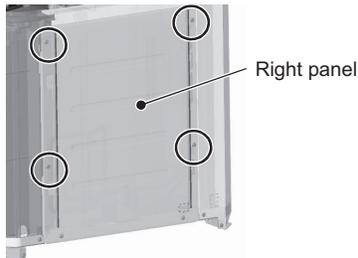
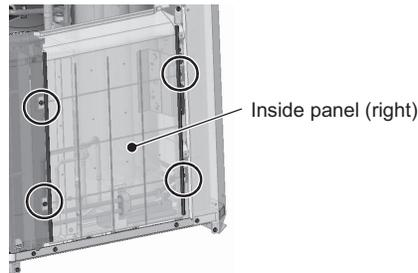
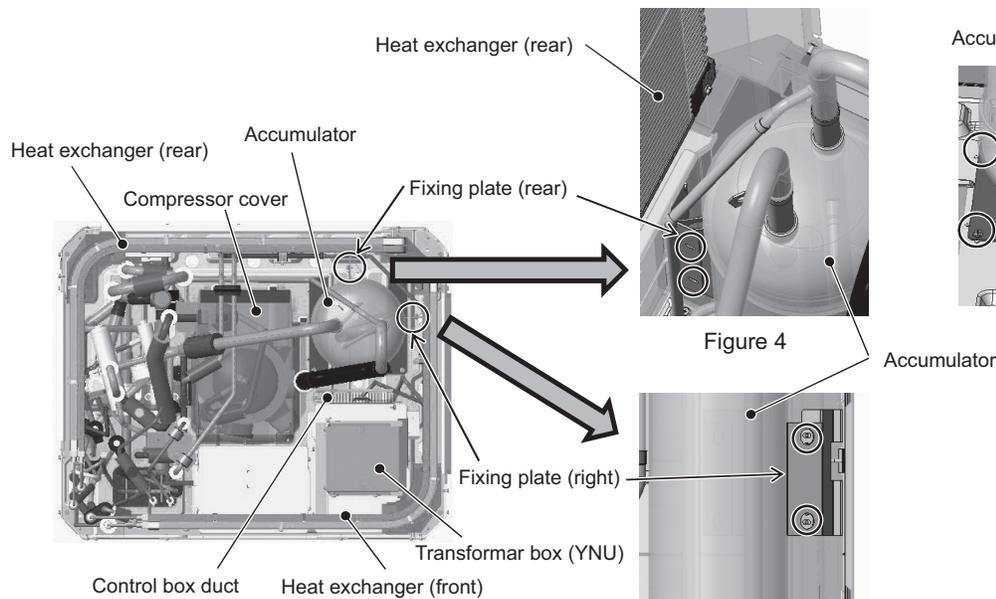
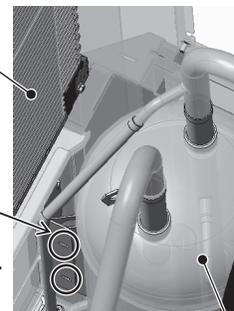

Figure 1
Figure 2
Figure 3
Figure 4
- (1) Remove the front heat exchanger. Refer to 8-13-9 Maintenance Procedures for the Heat Exchanger for details.
- (2) Remove the top, front, and right compressor covers. Refer to 8-13-5 Compressor Replacement Procedure for details.
- (3) Remove the duct from the control box. Refer to the control box replacement procedure for details.
- (4) Remove the right and inside (right) panels by unscrewing the eight screws. (See Figures 1 and 2.)
- (5) Unscrew the two screws from the right accumulator fixing plate. (See Figures 3 and 5.)
- (6) Unscrew the two screws from the rear accumulator fixing plate. (See Figures 3 and 4.)
<p><KB type, J type, and 4-, 6-, 8-branch types></p> <ol style="list-style-type: none"> 1) Remove the control box by unscrewing the four fixing screws. (Figure 1) 2) Unscrew the four service panel fixing screws. (Figure 2) 3) Remove the top panel by unscrewing the nine fixing screws. (Figure 2) <p><For J-type, 12- and 16-branch types, JA-type, and KA-type></p> <ol style="list-style-type: none"> 1) Remove the service panel (1) by unscrewing the two fixing screws. (Figure 3) 2) Remove the control box by unscrewing the four fixing screws. (Figure 3) 3) Remove the top panel by unscrewing the 10 fixing screws. (Figure 4) 4) Remove the service panel (2) by unscrewing the two fixing screws. (Figure 4) 	<p>Figure 1: Control Box</p> <p>Figure 2: Ceiling panel, Service panel</p> <p>Figure 3: Control Box, Service panel (1)</p> <p>Figure 4: Ceiling panel, Service panel (2)</p>
<p>1) Remove the fixing screw on the long side of the bottom panel. (Four places encircled by circles in Figure 1)</p> <p>2) To prevent the bottom panel from falling, of the four screws indicated with triangles in Figure 1, only loosen (but not remove) the two screws that are diagonally located or on the opposite ends of the long side of the panel (either (1) and (3), (2) and (4), (1) and (4), or (2) and (3)). Remove the two remaining screws.</p> <p>3) As shown in the enlarged view of Figure 1, the fastening screw hole on the short side looks like two circles in different shape joined together (double-snowman shape). Slide the bottom panel in the direction of the arrow, and remove it in the downward direction. (Figure 2)</p> <p>4) When removing the drain pan, hold the protruded area of the panel or the socket and pull it straight down, using caution not to let it come into contact with the sheet metal. (Figure 3) If the drain pan comes into contact with the sheet metal, the drain pan may be scraped, leading to water leakage.</p> <p>Installing the bottom panel</p> <p>1) Of the four screws indicated with triangles in Figure 1, partially tighten the two screws that are diagonally located (either (1) and (3), or (2) and (4)).</p> <p>2) Thread the screw into the double-snowman shaped hole, move the panel in the opposite direction as when it was removed in step 3) above, set the screw into the smaller circle, and tighten the screw to hold the panel in place.</p> <p>3) Tighten the remaining screws.</p> <p>Note Do not stay directly underneath the unit when working with the bottom plate. Remove the drain piping to remove the drain pan. Check that no water has accumulated in the drain pan.</p>	<p>(Figure 1) Bottom panel</p> <p>(Enlarged view of Figure 1)</p> <p>(Figure 2)</p> <p>(Figure 3) Socket, Protrusion, Drain pan</p>